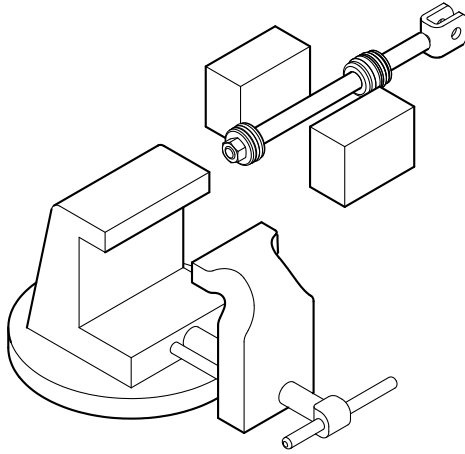

Figure 5-2, Cylinder Shaft
6. Clamp the rod assembly in a soft jawed vise on the wrench flats, not on the rod surface. If the rod does not have wrench flats use two pieces of wood on both sides of the rod to prevent scarring. (Figure 5-2)